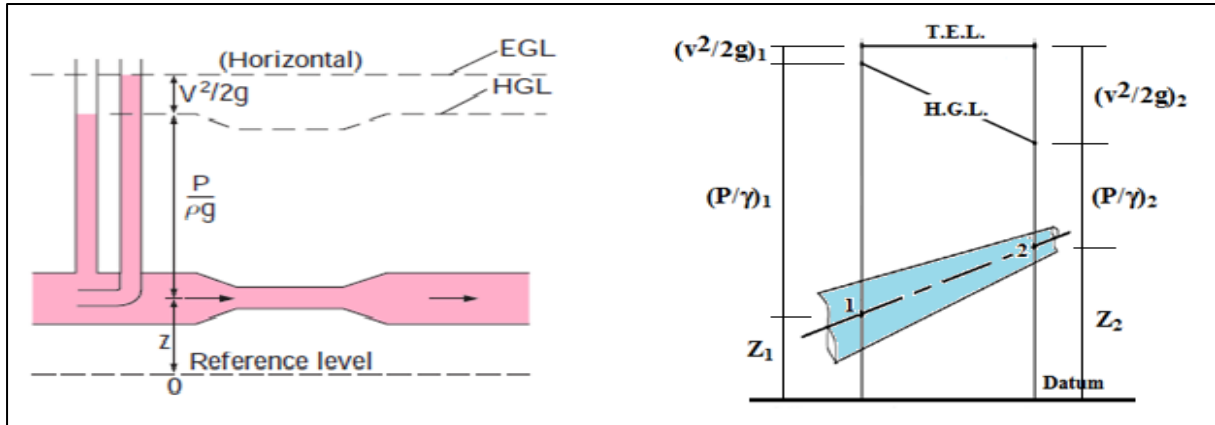

Figure 5. Horizontal TEL and HGL
- In an ideal flow, EGL is horizontal, and its height remains constant. This is also the case for HGL when the flow velocity is constant, as shown in Figure 5.